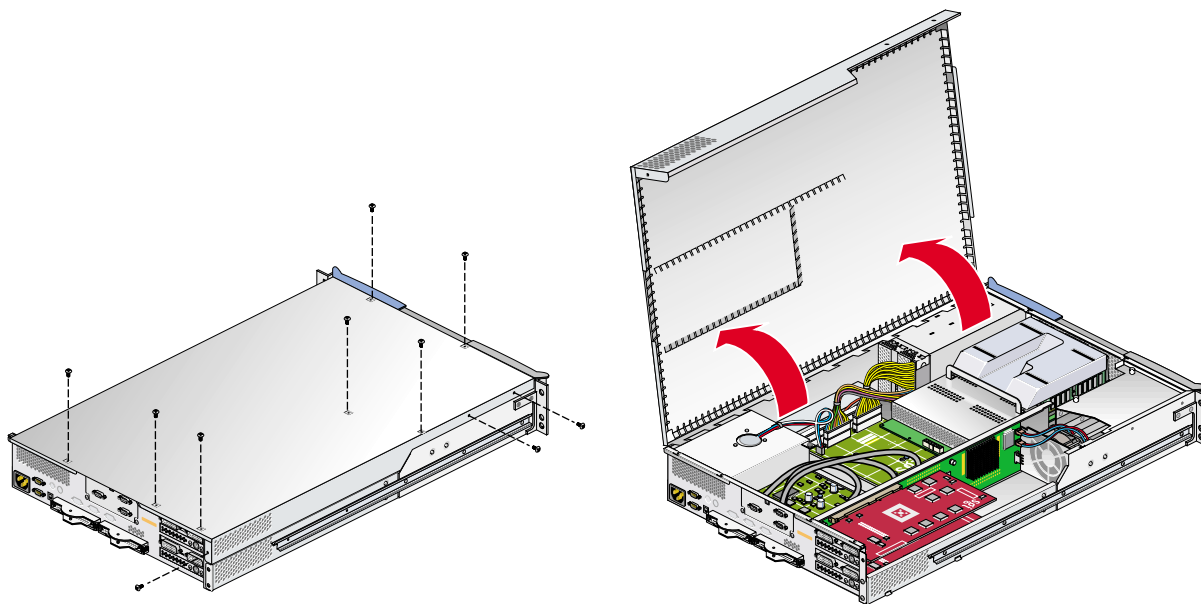

Figure A-9 Opening Module to Remove DIMM
5. To access the DIMMs, remove the ten Phillips screws shown in Figure A-9 and open the hinged cover.